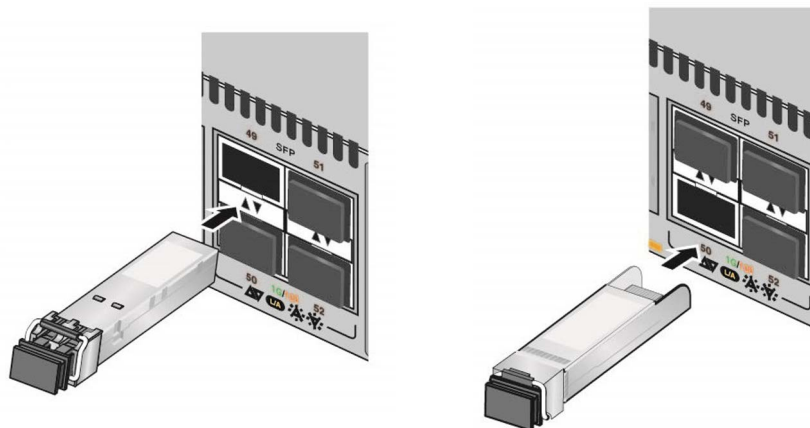

Figure 85. Installing SFP+ Transceivers
4. Slide the transceiver into the port until it clicks into place. Refer to Figure 85.